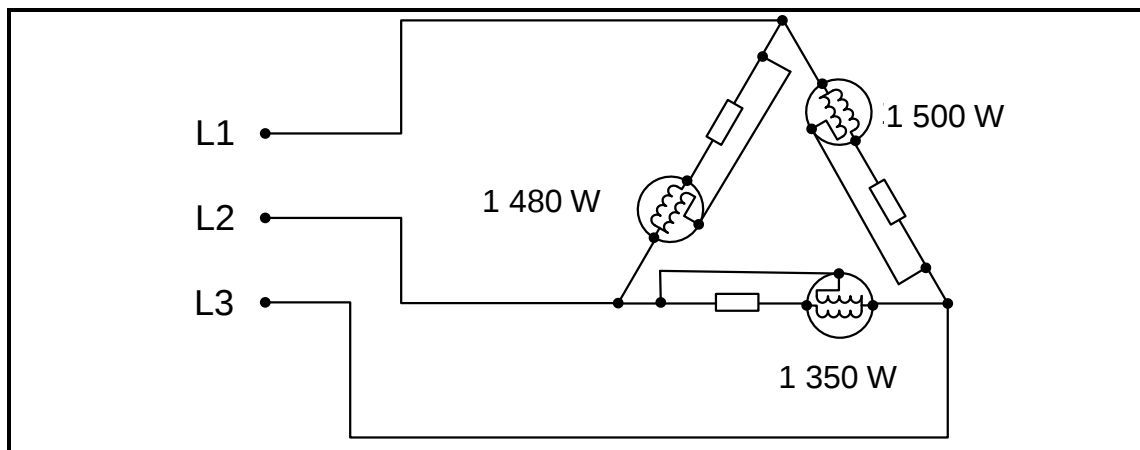

FIGURE 2.1: UNBALANCED THREE-PHASE CIRCUIT
- 2.1 FIGURE 2.1 below shows a three-phase circuit.